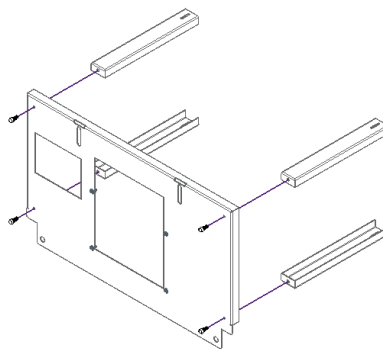

Figure 2 - Auxiliary table assembly
1. Protect the surface on which you are going to work. Join the four legs of the table with four DIN 912 M8x20mm screws as shown in Figure 2, it should be hand-tightened only, to make the rest of the assembly easier to perform.